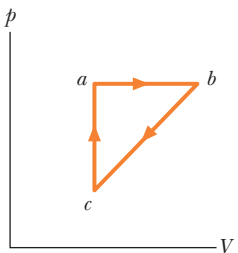

Figure 18-43 Problem 50.
••50  A lab sample of gas is taken through cycle  $abca$  shown in the  $p$ - $V$  diagram of Fig. 18-43. The net work done is  $+1.2$  J. Along path  $ab$ , the change in the internal energy is  $+3.0$  J and the magnitude of the work done is  $5.0$  J. Along path  $ca$ , the energy transferred to the gas as heat is  $+2.5$  J. How much energy is transferred as heat along (a) path  $ab$  and (b) path  $bc$ ?